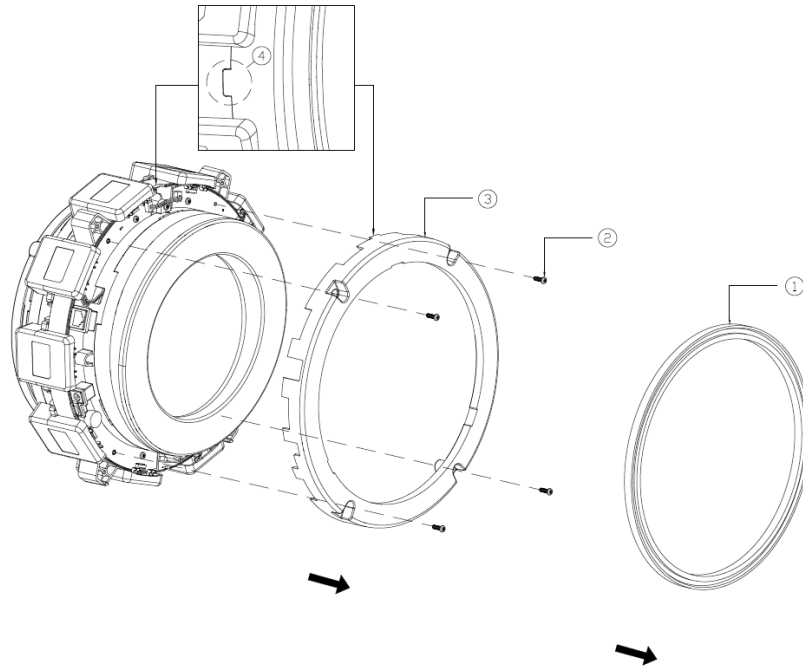

Figure 5-1
(5) Remove the Silicone Ring and the Mainboard Cover
As shown in Figure 5-1, remove the silicone ring ① directly from the front of the scanner in the direction of the arrow, remove the 4 screws ②, and remove the mainboard cover ③ (RVM100-MBC). The specification of the screw is the self-tapping screw, ST3*10mm.